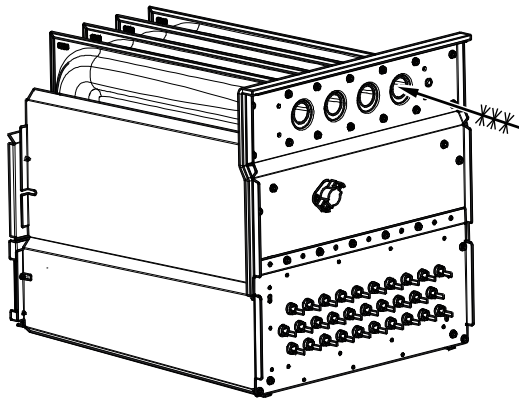

Fig. 71 – Cleaning Heat Exchanger Cell
7. Clean heat exchanger openings with a vacuum and a soft brush. See Fig. 71.
8. Reverse items 6 through 1 for reassembly.